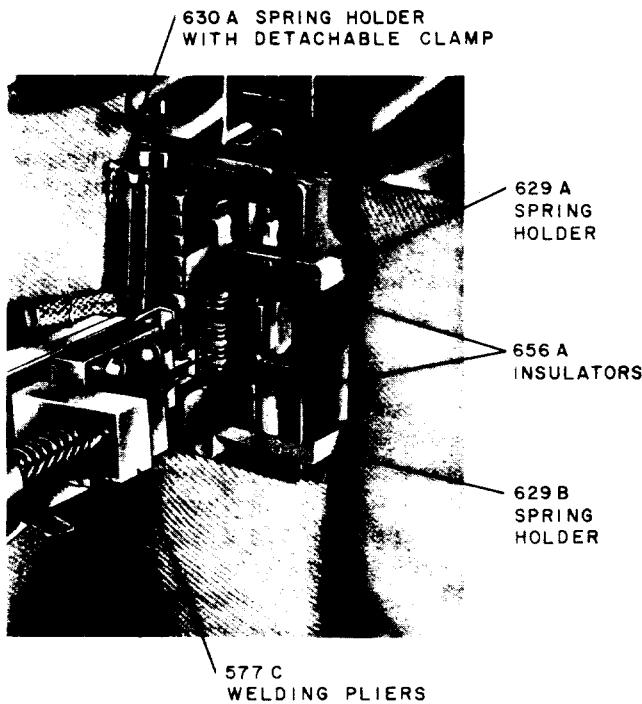

Fig. 9—Welding Contact on Fixed Spring
**4.27** After positioning the pliers as covered in 4.24 through 4.26, hold them so the side of the jaw electrodes is parallel to the fixed contacts. Hold the pliers in line with the spring, and release the latch to move the contact electrode forward to the welding position as shown in Fig. 9. Then, with all hand pressure removed from the handles of the pliers, depress and release the control button of the current supply set. Do not operate the control button more than once for any one welding operation. Holding the control button depressed has no effect since the time control relay of the current supply set is held locked until the control button is released.